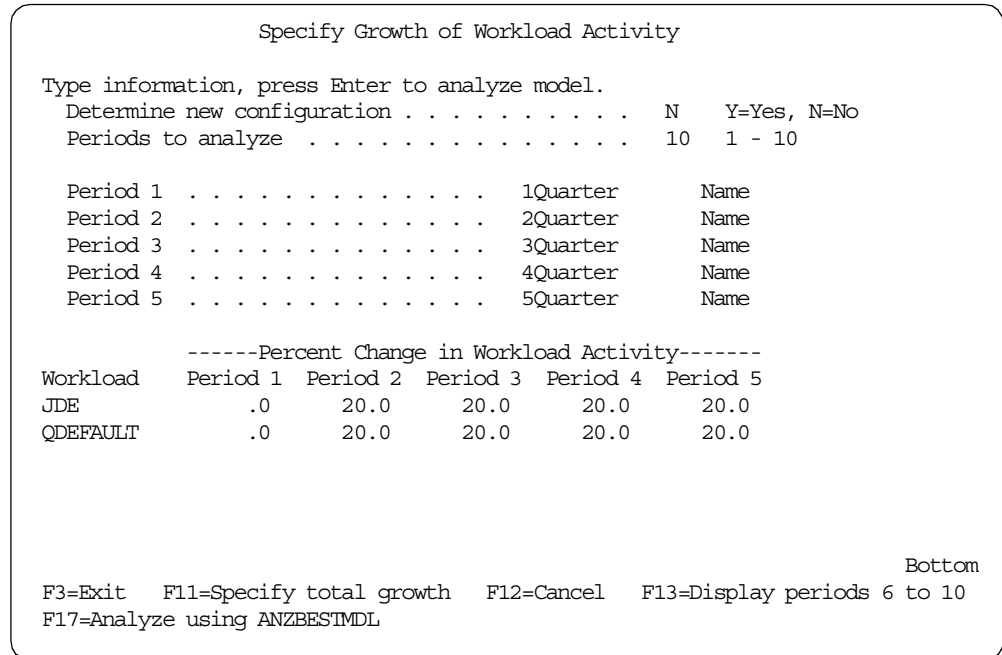

Figure 366. Specify Growth of Workload Activity
- Press Enter. The display shown in Figure 366 allows you to grow all the workloads by a single percentage for up to 10 periods.